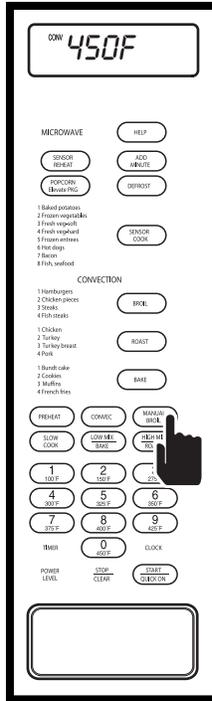

Figure 3-81.
1. Press MANUAL BROIL key, “450F -ENTER - COOKING - TIME” will flash on display. (See Figure 3-81)